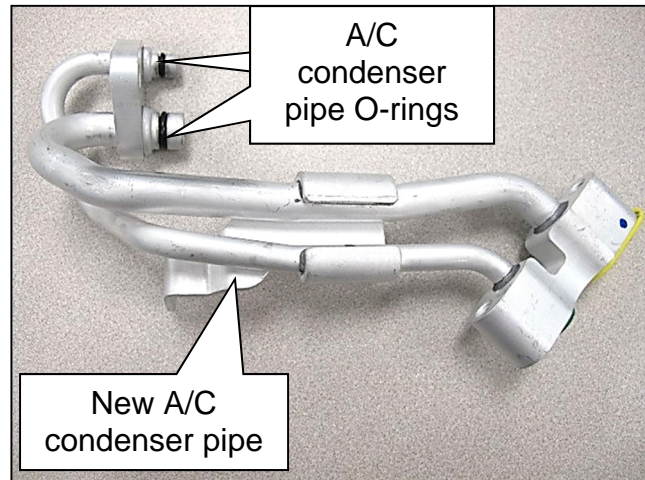

Figure 11
- b. Verify the O-rings are present and undamaged (Figure 11).